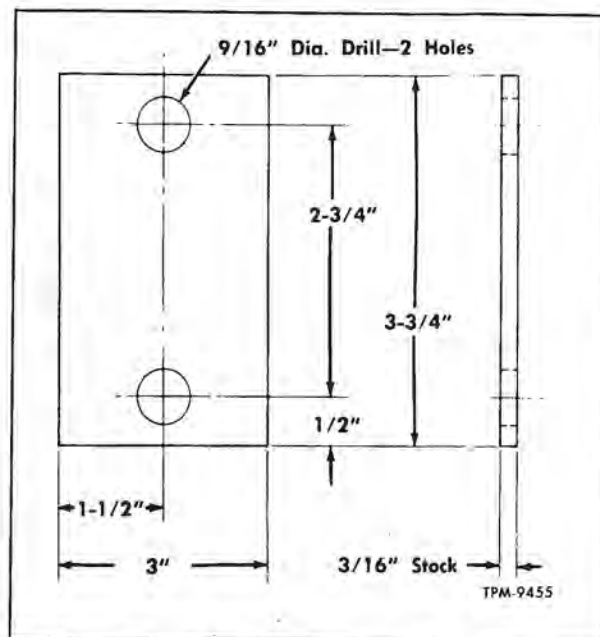

Figure 64—Closure Plates (For Placing Over Compressor Valve Ports)
4. NOTE: The following procedures cover method whereby the refrigerant lines with valves are disconnected from compressor. Close valves by turning stem clockwise, then remove bolts attaching valves to compressor. Raise and tie lines up out of the way. The compressor valve openings should be immediately covered with improvised blank flange plates and gaskets after removing the valves. This will retain some refrigerant in lines and compressor thus minimizing the entry of air and moisture. Figure 64 shows dimensions of closure plates which can be improvised locally.
5. Disconnect "HI-LO" pressure switch suction line (11) at suction valve test fitting. If "HI-LO" pressure switch is mounted on bulkhead, disconnect both lines at test gauge fittings. IMMEDIATELY SEAL ENDS OF ALL LINES AND CAP THE OPEN LINE FITTINGS.